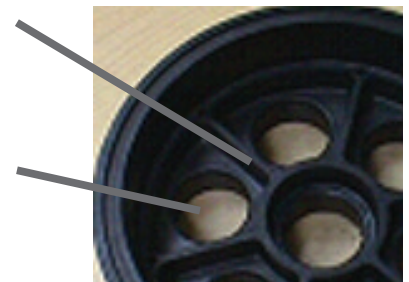

Fig. 4
4. From valves to pool, place a Schrader plug or blow out plug as recommended. Install and secure Schrader or blow out plugs in all parts of valve(s) (except center feed port of second and multiple valves when multiple valves are being used). Proceed to blow out lines through Schrader or blow out plugs to pool. (See Fig. 4)
6. While blowing out the down jets or any nozzle bodies above freeze zone. and while air is escaping through the in-wall hole, install and secure a regular winterizing plug. Repeat until all ports are blown out. (See Fig. 4)